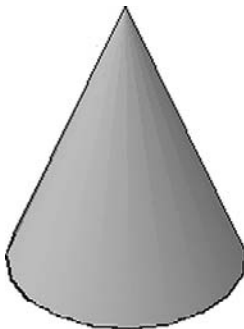

FIGURE 22.3
- Step 4.** Drag your mouse up (or enter a value) and the cone shape is automatically extruded, as seen in Figure 22.3. The command has some interesting suboptions, such as **Top radius**, which can chop off the pointy top of the cone. Experiment with these options.